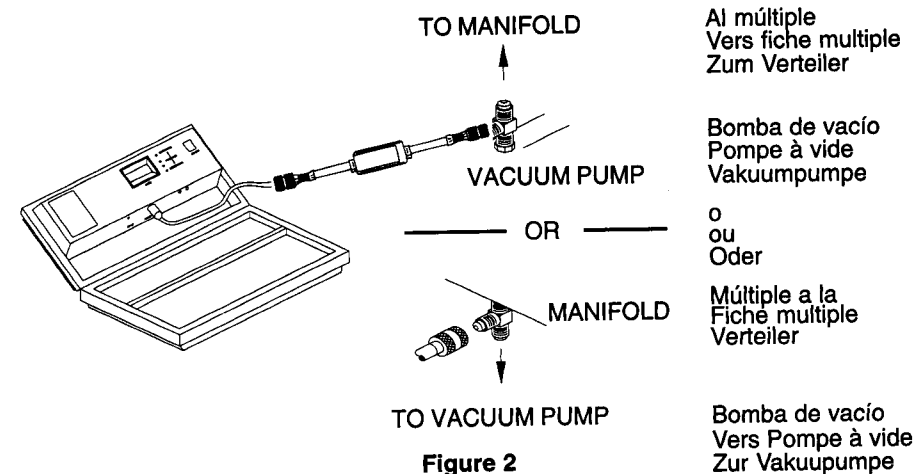

Figure 2
3. Connect the probe to the input jack on the unit as shown in Fig 2. Note that the probe fits in only one way.
4. Use a good pipe thread sealant such as tape dope (DO NOT use liquid type sealants as they may enter the sensor) to connect the short filter hose provided to the system being measured. In certain cases it may be necessary to use a tee fitting at either the manifold or pump inlet (see Fig 2). Ideally the probe should be connected so that it can be isolated from the pump after evacuation in order to monitor system vacuum.